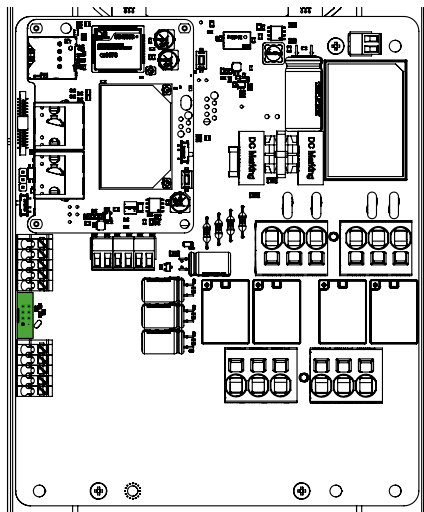

Fig. 20: PilotBox RCM B socket.
1. Connect the device to the dedicated socket on the PilotBox board. [Fig. 20]